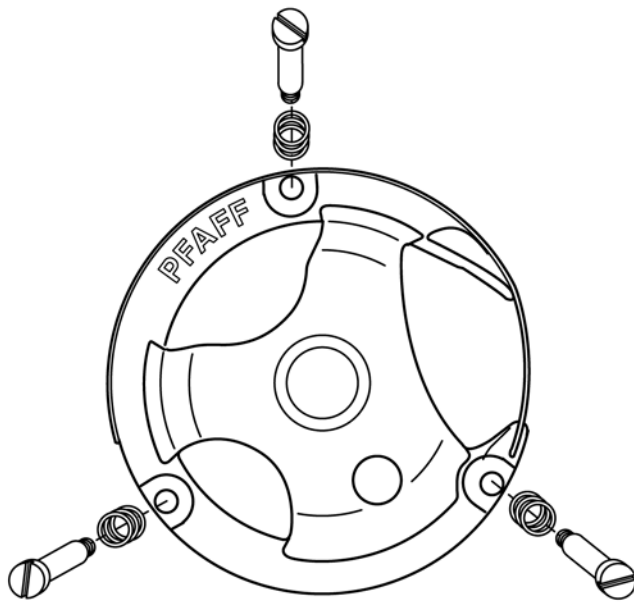

Fig.60
- Take out the three screws with springs from behind (fig. 60).
- Fasten the sewing hook gib from behind with three screws with springs (fig. 60).